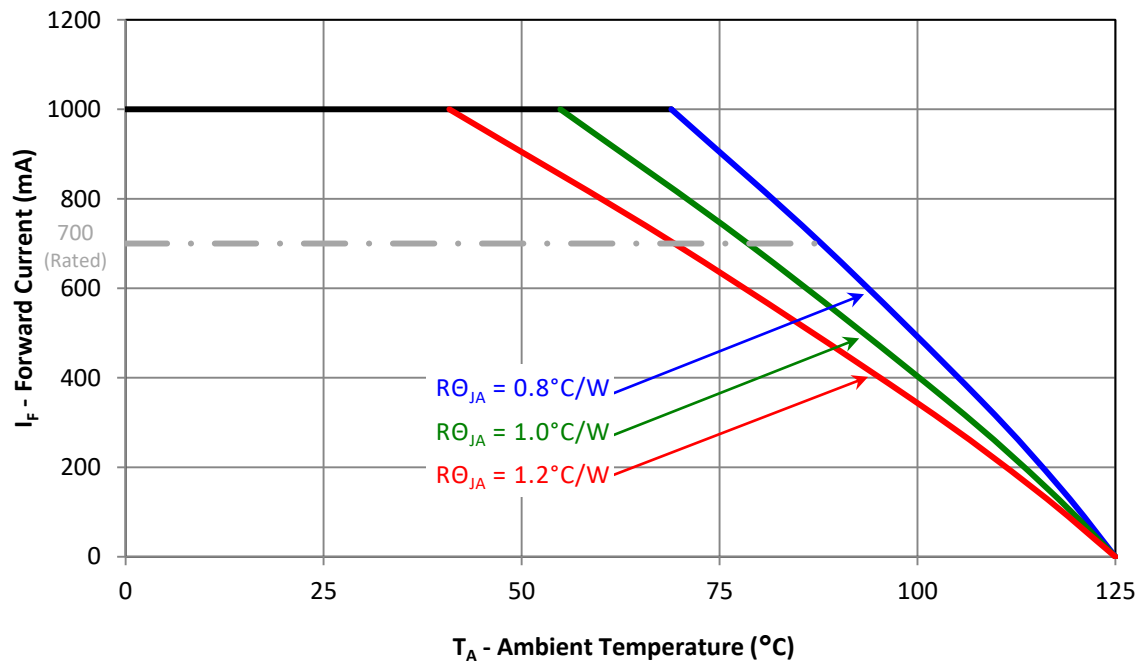

Figure 11: Maximum forward current vs. ambient temperature based on $T_{J(\text{MAX})} = 125^\circ\text{C}$
- Maximum DC forward current is determined by the overall thermal resistance and ambient temperature. Follow the curves in Figure 11 for current derating.
Notes for Figure 11: